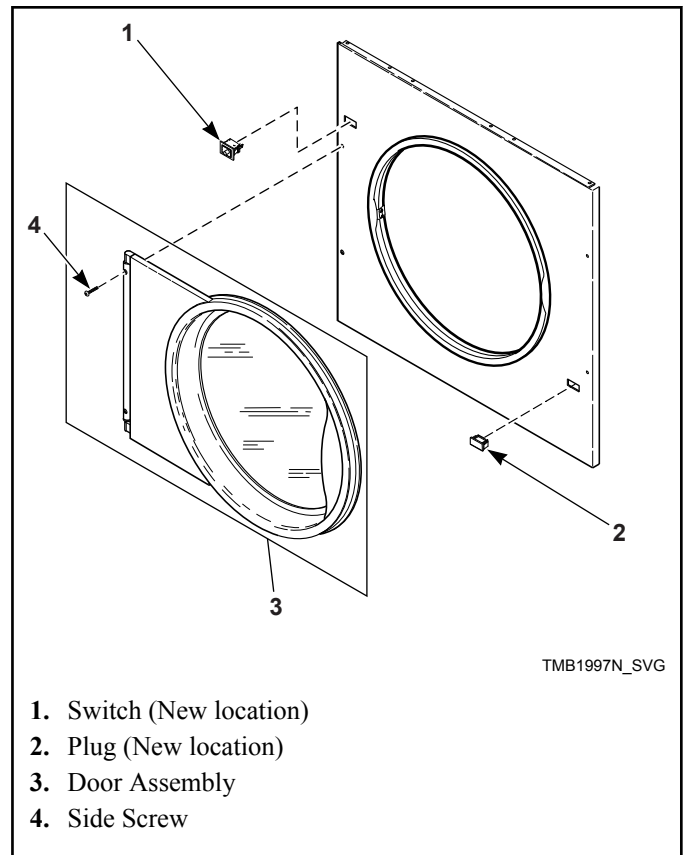

Figure 13
9. Place front panel on machine, loosely attach four bottom screws. Connect door switch harness to switch in new location. Install door assembly and four front panel side screws loosely. Refer to *Figure 13*.